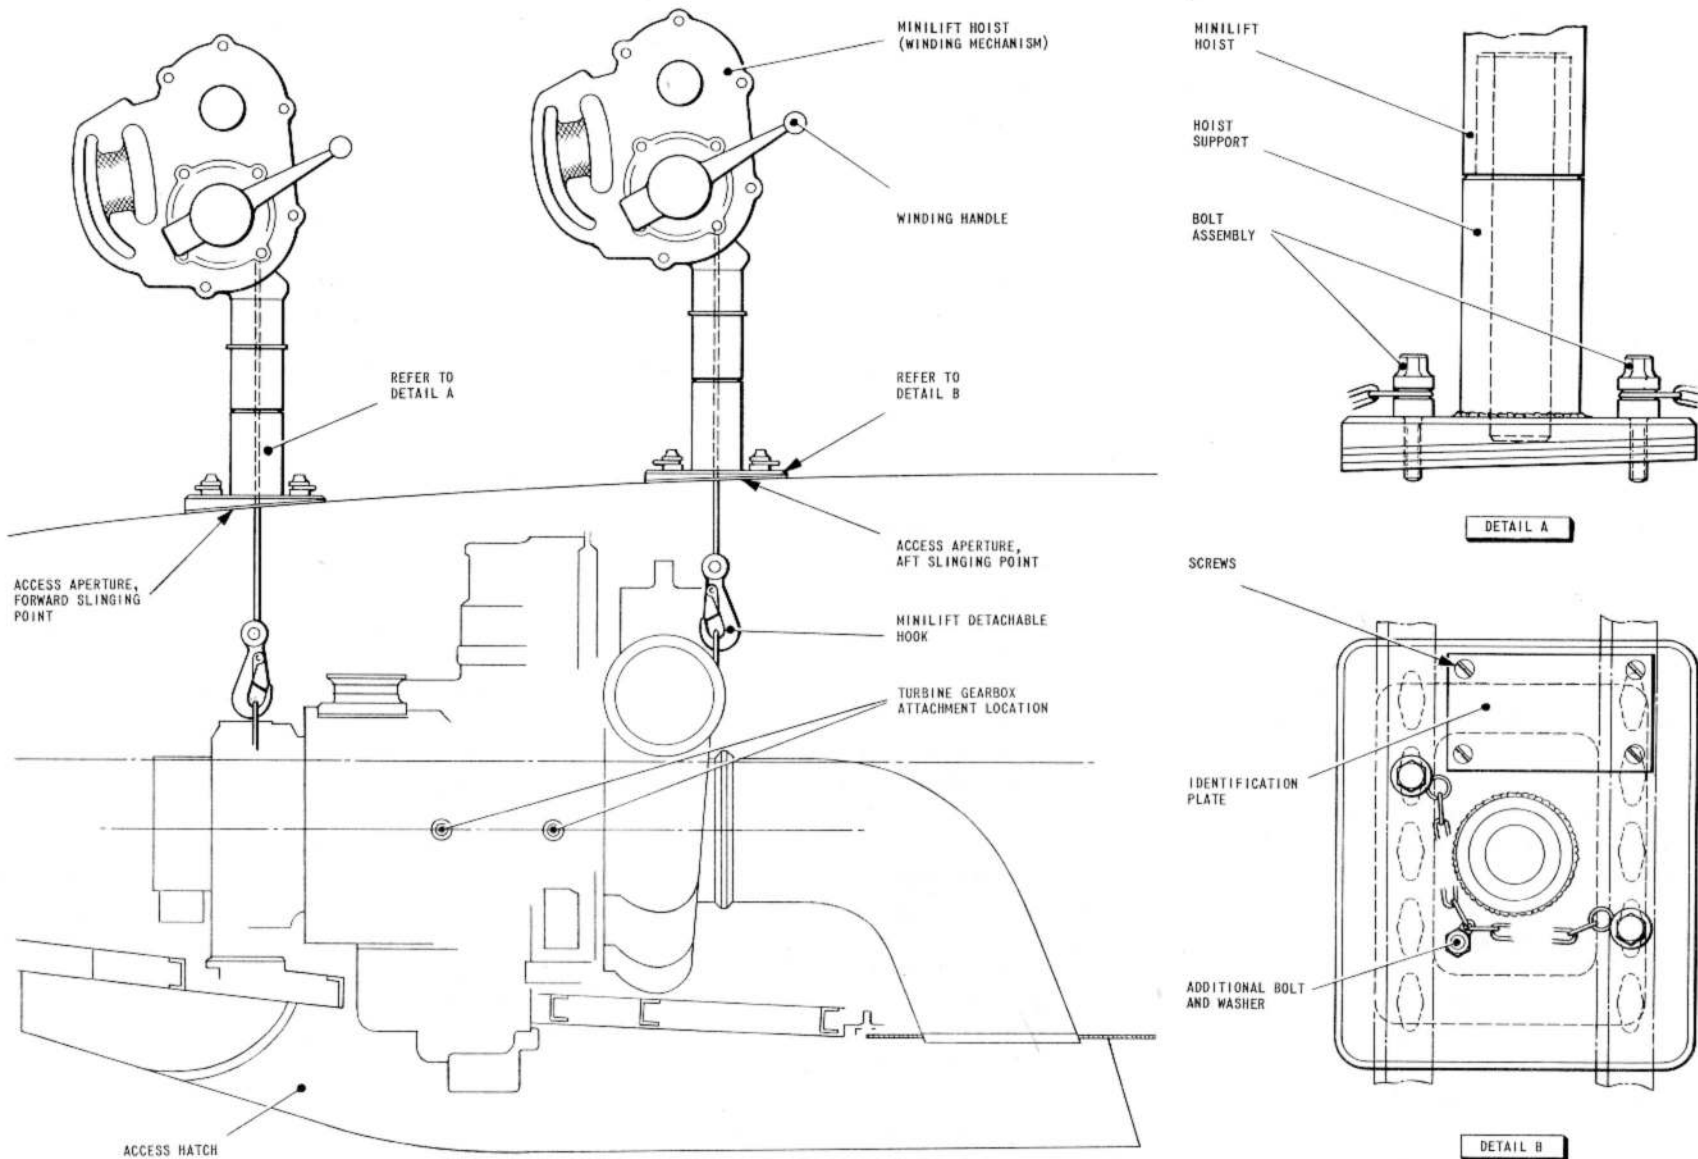

FIG. 11. TURBINE - GEARED ALTERNATOR - REMOVAL AND ASSEMBLY (3)
(5) Attach the two hoist supports (fig. 11, detail A) to the access panel surrounds and secure the hoist supports with the bolt assemblies and the additional bolt and washer provided (fig. 11, detail B).
(6) Attach the hoist mechanisms (fig. 11), one to each support. Assemble the handle, lower the cables and attach the hooks to the forward and aft lifting eyes which are located on the volute casing and the alternator, respectively. Tighten the cables to support the assembly.
(7) Disconnect the electrical cables from the terminal blocks on the alternator.
(8) Disconnect the socket from the plug on the hydraulic servo unit and fit the protective cap on the plug.
(9) Remove the clamps securing the turbine air supply duct to the flow control valve.
(10) Remove the clamps securing the air exhaust duct to the turbine.
(11) Remove the clamps securing the cooling air outlet ducts to the alternator and gearbox, respectively.
(1) Remove the access hatch complete with air scoop from beneath the main plane.
(2) Remove the two access panels from the upper surface of the main plane and attach the hoist supports (*fig. 11, detail A*) to the access panel surrounds, using the bolt assemblies and the additional washer and bolt provided (*fig. 11, detail B*).
(3) Attach the hoist mechanisms (*fig. 11*), one to each support. Assemble the handle, lower the cables and attach the hooks to the two lifting eyes of the turbine-g geared alternator.